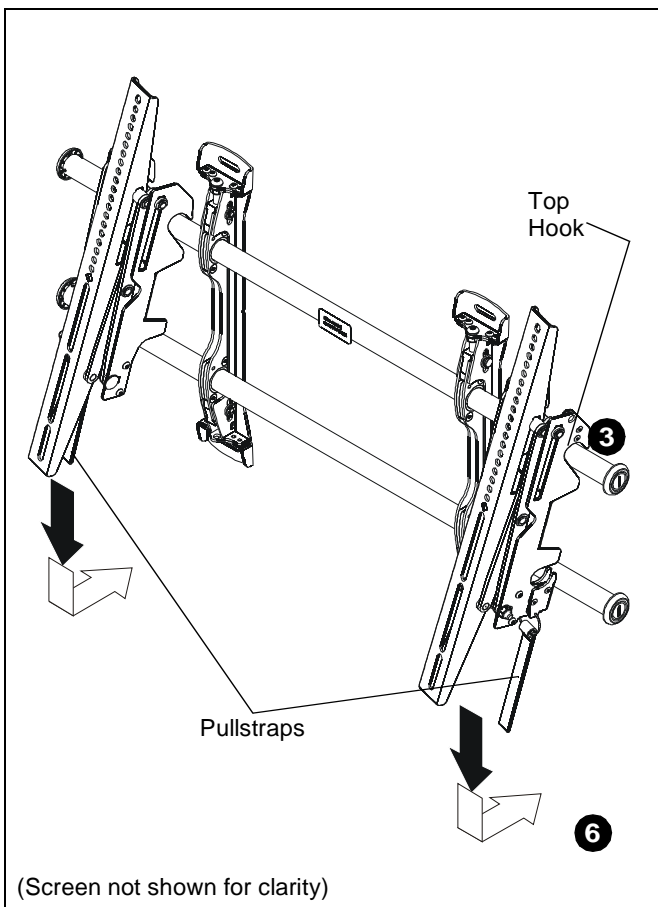

Figure 8
3. Hang top hook of uprights (U and V) onto the top bar of the mount (R). (See Figure 8)
6. Pull downward on the pullstraps and swing inward toward wall, latching uprights to lower bar and locking bottom of screen to the mount. (See Figure 8)